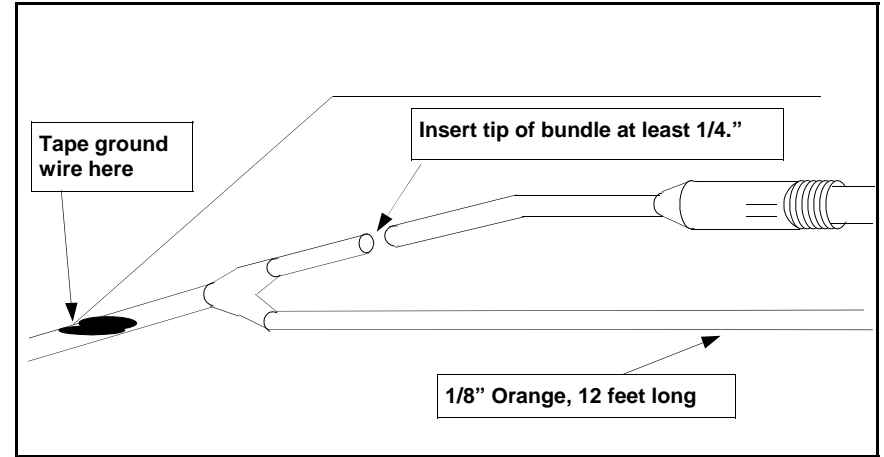
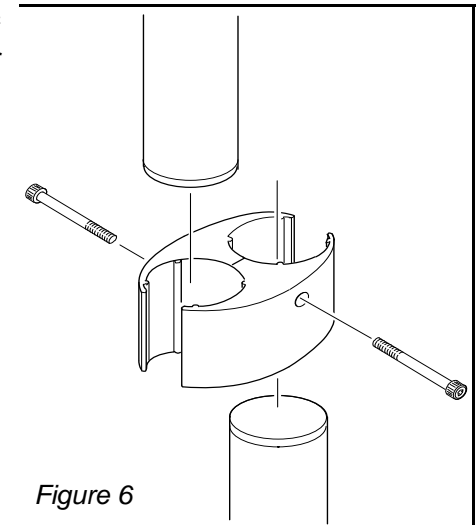

Figure 7
Figure 6
**6. To install the light post extension (Figure 6):**
**Use figure 6 if your foot control has 4-hole tubing. Use figure 7 if it has 5-hole tubing.**